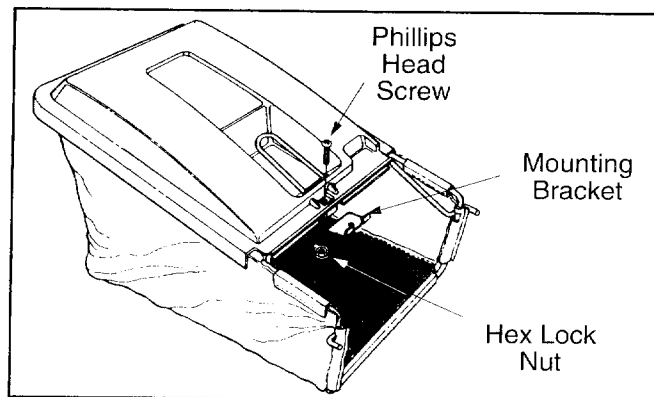

Figure 10
- Place the mounting bracket under the front of the handle, with the tabs on the bracket facing up. Insert phillips head screws down through the hardtop cover and mounting bracket. Secure with hex lock nuts. See Figure 10.